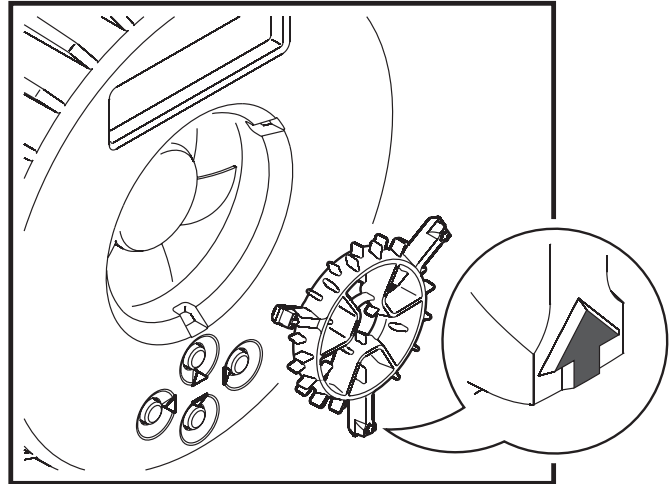

Figure 4: Head fan grill removal
5. See Figure 4. Remove the grill from the fan on the back of the head by inserting a small flat-bladed screwdriver between the head and the arrow on the grill and levering the grill out of the head. Use cotton swabs (cotton buds) and a vacuum cleaner to clean the grill and the blades of the head fan, then clip the grill back into place.